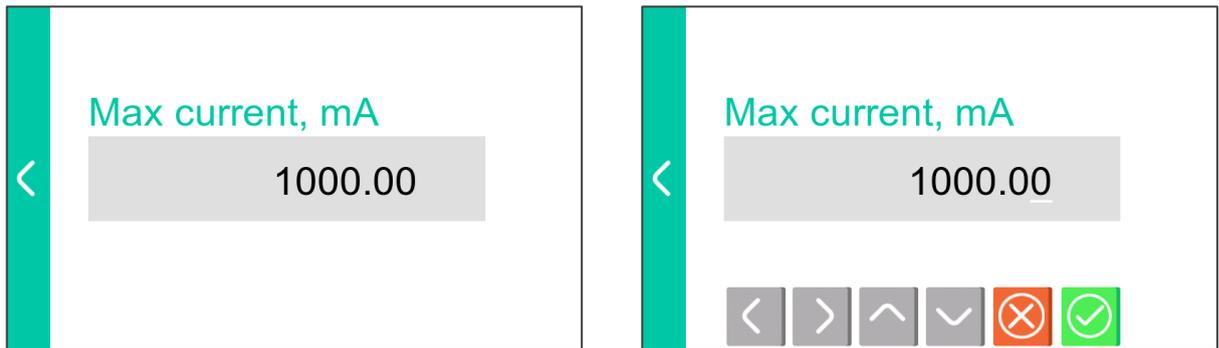

Figure 4 – Setting the parameter
6. To set the parameter select it from the list. The new window displays the parameter value stored in the laser memory. To change it, click on the window (fig. 4). Use the left and right arrows to select the digit to change, use the up and down arrows to change the value. Press button to save the changes and exit menu. Press button to exit menu without changes.